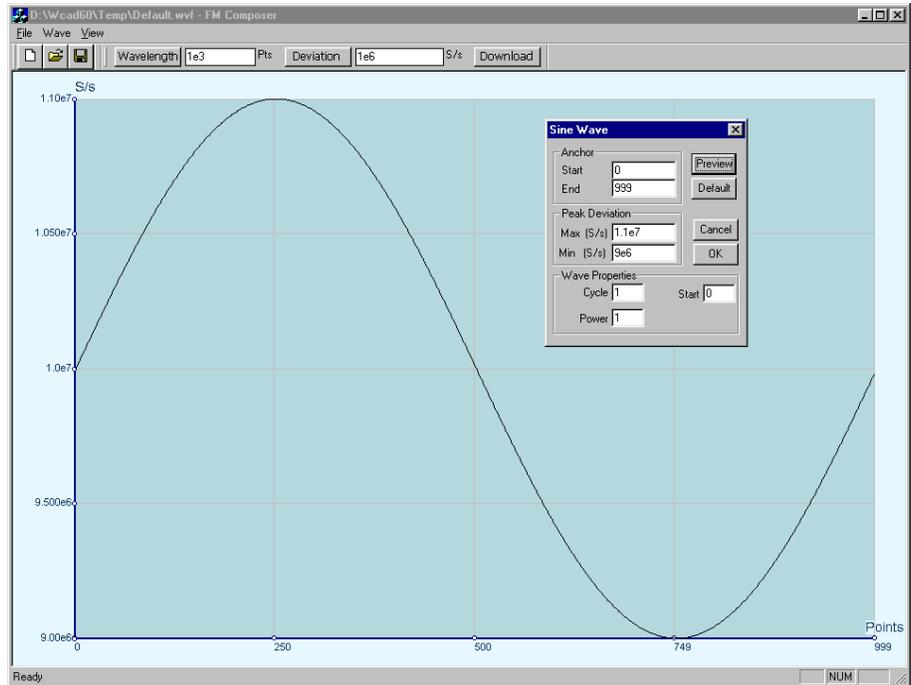

Figure 3-22. Using ArbExplorer to Generate Arbitrary Modulating Waveforms
9. Refer to the Figure 3-22 and modify the Wavelength field to have 10,000 points. After you modify the field, press the Wavelength button. The number of points is derived from the following relationship: